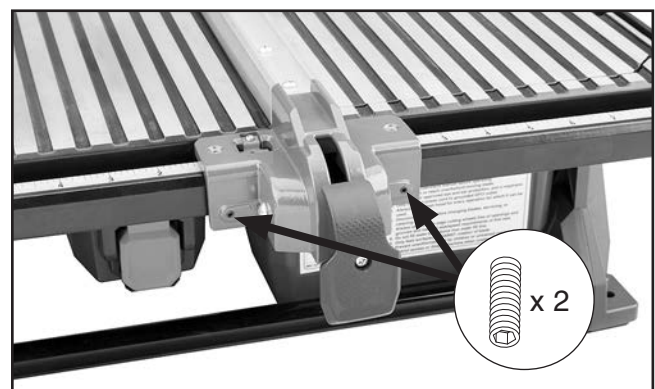

Figure 51. Rip fence adjustment set screws.
2. Adjust set screws shown in **Figure 51** to adjust rip fence movement.